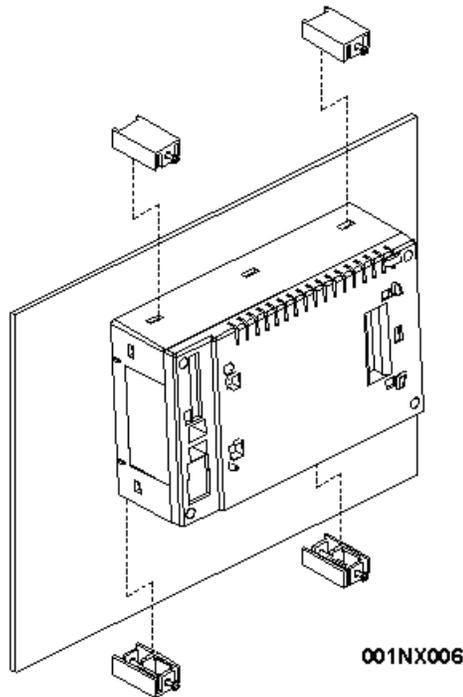
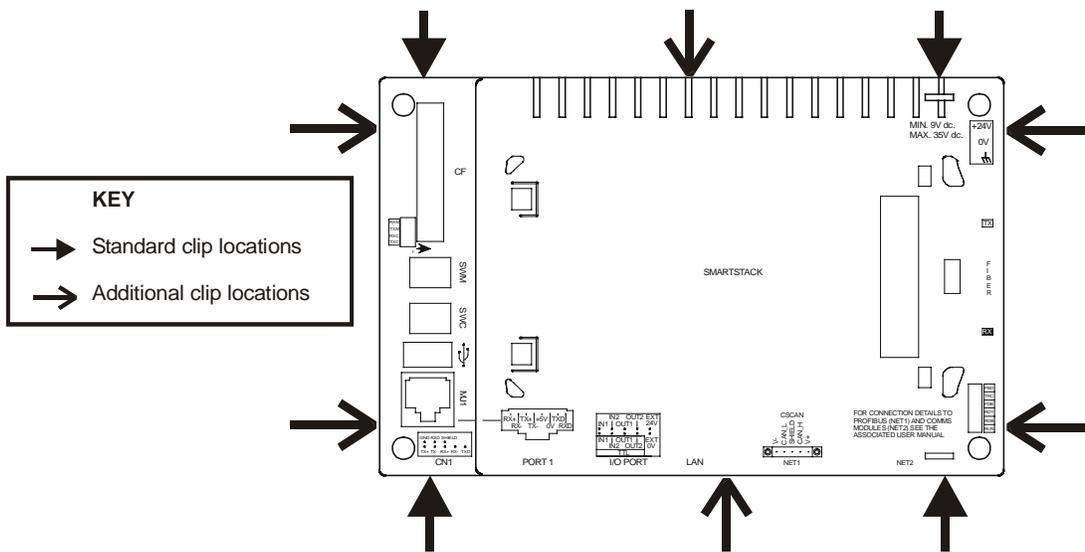

Figure 3 – Four Standard Mounting Clips
Figure 4 – Locations for 10 Mounting Clips for Optimum Seal Against Leaking
2. Place the OCS in the panel cutout. Secure the unit as shown in **Figure 3** using the four (4) supplied mounting clamps. **Figure 4** shows the possible clamping locations (10 possible), and the locations recommended for most applications.
Figure 4 shows locations for four standard mounting clips.